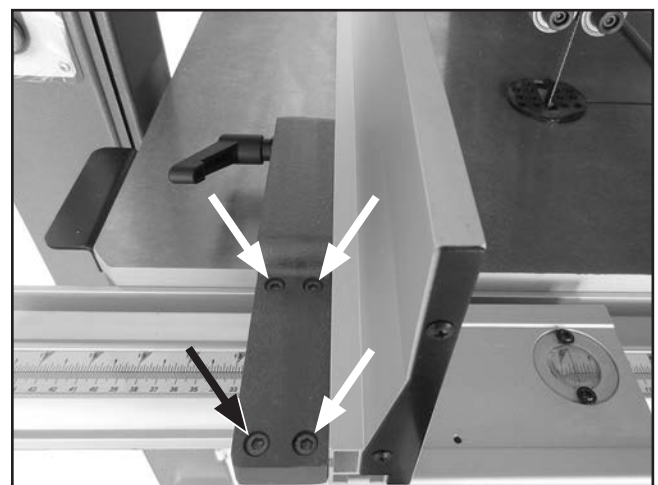

Figure 98. Location of fence adjustment cap screws.
5. Loosen the four fence adjustment cap screws to the left of fence face (see **Figure 98**), skew fence so that it is parallel with wood board, contacting it evenly along its length, then retighten cap screws.